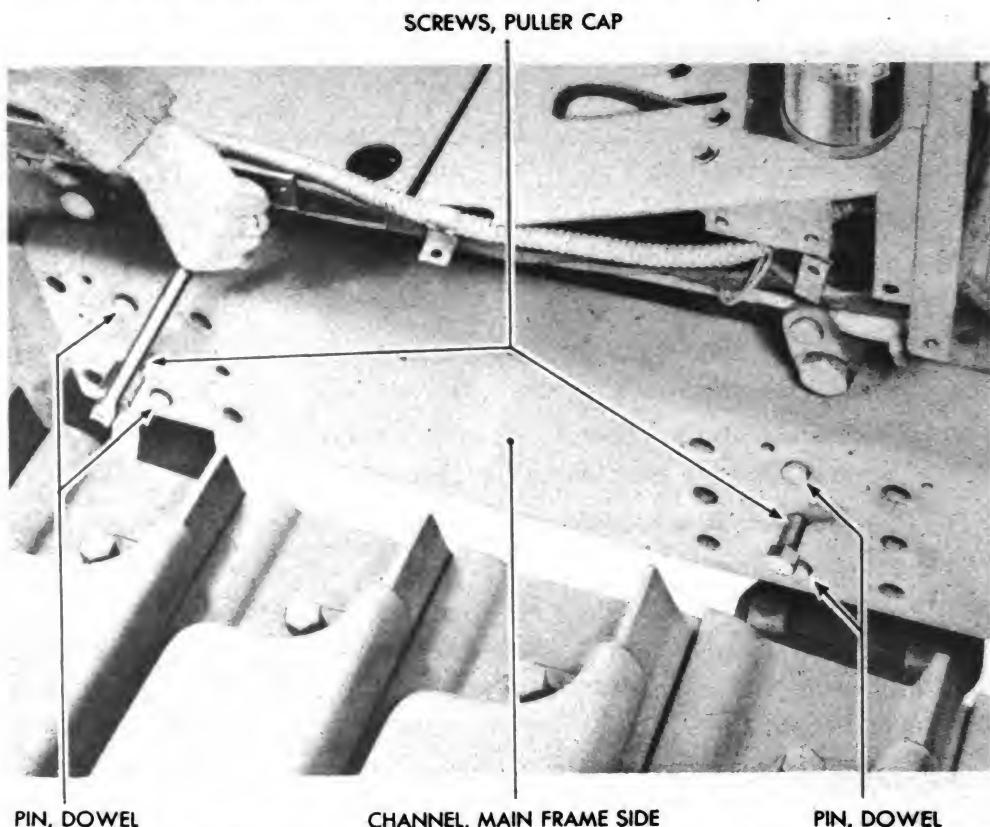

Figure 179 - Main Frame Side Channel Removal RA PD 43498
(5) REMOVE MAIN FRAME SIDE CHANNEL (RIGHT) (fig. 179).